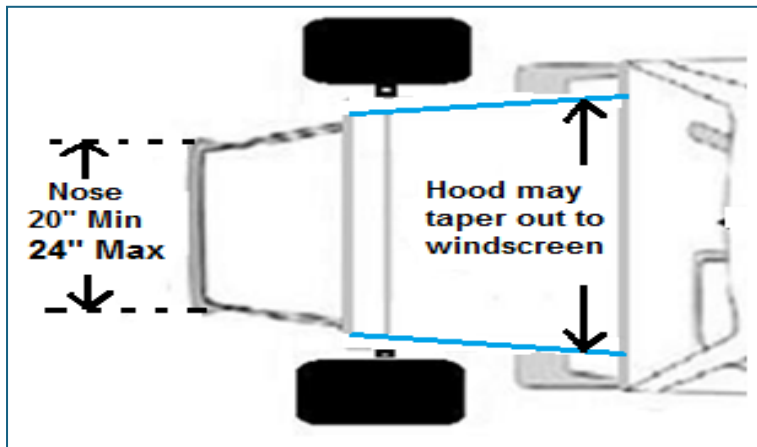

Figure 6
- 8.3 No part of the nose section (excluding bumper) can exceed 20" minimum or 24" maximum in width (*Figure 6*). (Cars manufactured prior to the 2018 production year with the narrow nose will be grandfathered. If the front clip of a narrow nosed car is replaced, it should be upgraded to a compliant size where possible).
- 8.4 The Hood section may taper out to door panels (*Figure 6*).